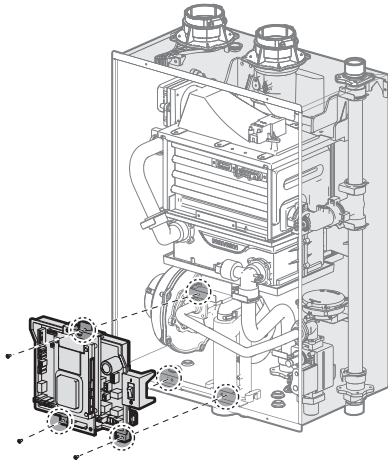

Figure 1. NHB Series Front cover
2. Using a Phillips screwdriver, remove 4 screws (2 at the top and 2 at the bottom) of the front cover assembly to gain access to the internal components. See Figure 1 for illustration of the front cover on the unit.